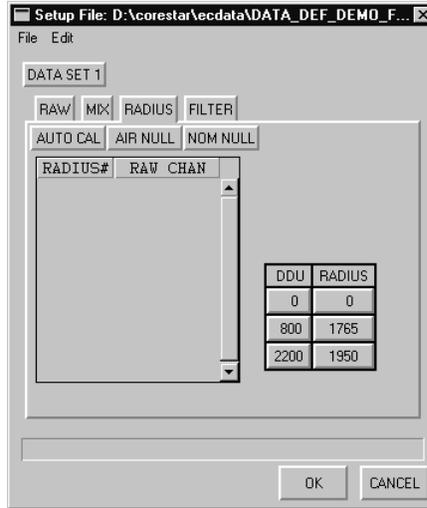

Figure 3-100. Setup Dialog - RADIUS Tab
- **SETUP > RADIUS Tab:** The **RADIUS** tab on the **Setup** dialog is shown in Figure 3-100. This dialog is used during rod control cluster assembly (RCCA) and other similar inspections where profilometry-type probes are in use, i.e., 8 X 1, etc. Since these settings are very specialized, please contact technical support if the use of this dialog is required.